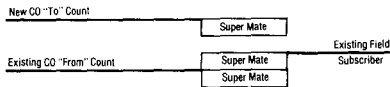

Fig. 20—All Conductors in pluggable connectors.
- (a) The subscriber, existing and new C.O. count pairs, should be terminated in Super Mate modules. See Figure 20.